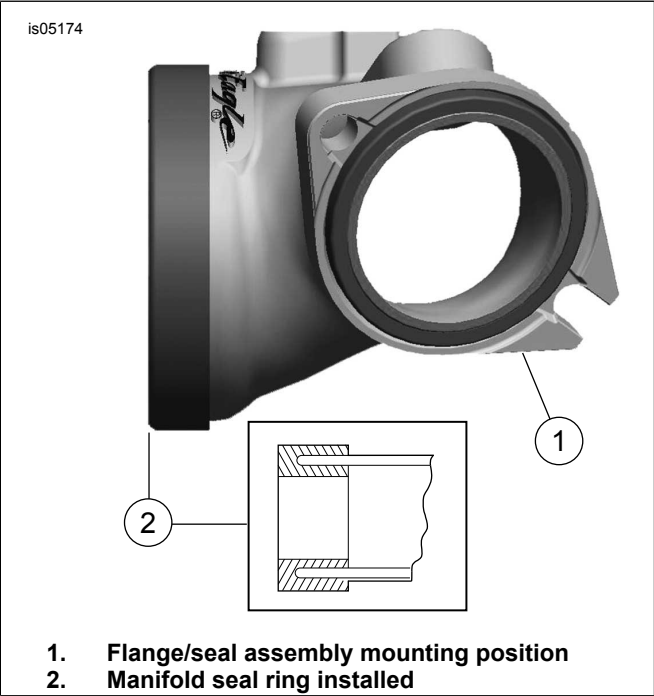

Figure 2. Manifold Seal Ring and Flange/Seal Assembly
5. See Figure 2. Install manifold seal ring (2).